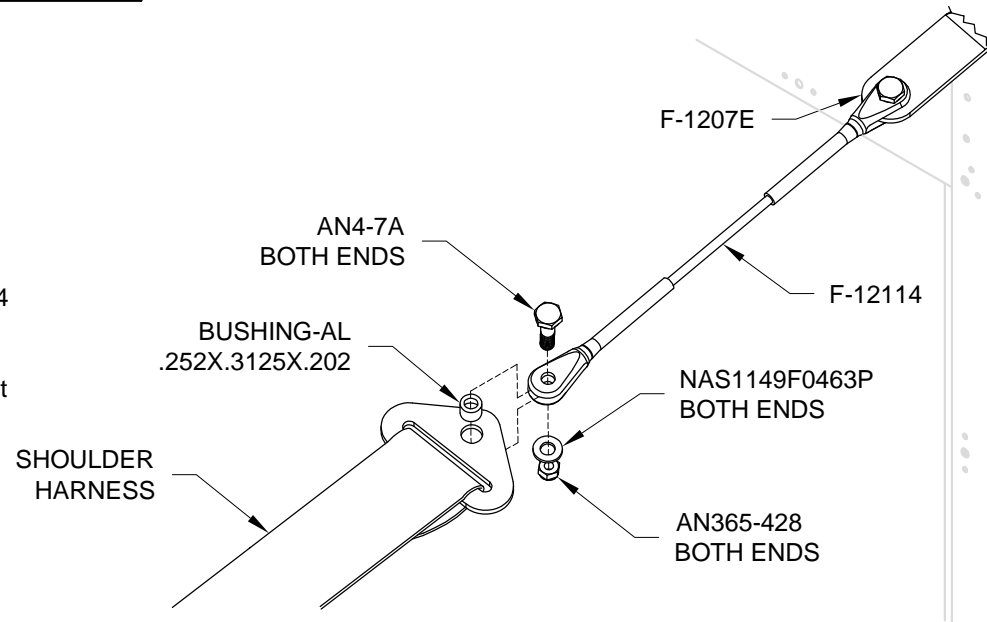

FIGURE 1: SHOULDER HARNESS ATTACH
Step 1: Attach one end of the F-12114 Shoulder Harness Cables to the F-1207E Shoulder Strap Lug using the hardware called out in Figure 1. No bushings are needed at this end.
Step 2: Attach the other end of the F-12114 Shoulder Harness Cables to the shoulder harness as shown in Figure 1. Take care when installing the shoulder harnesses that they will not be twisted when buckled.